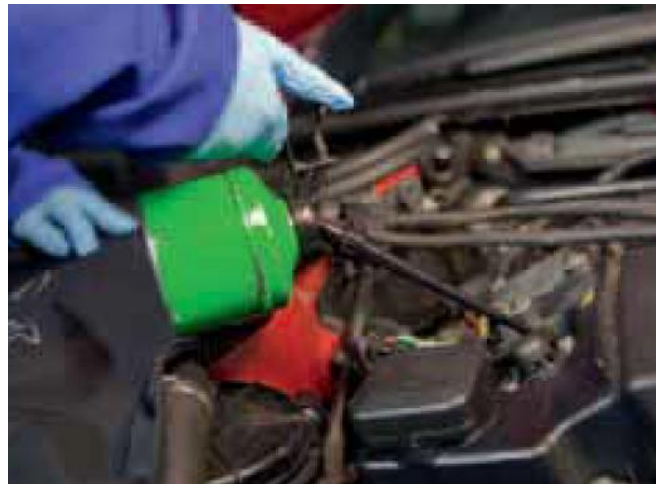

Fig 10
- Squirt approximately a teaspoon full of engine oil into the No.1 cylinder. (This is referred to as a "wet test") (Fig. 10).